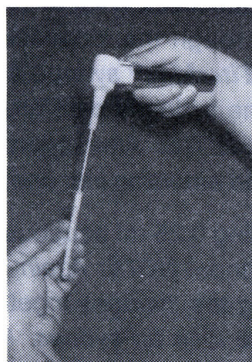

Figure 2: 0.5 ml of a 50:50 water-in-oil emulsion being prepared using the Kontes Pellet Pestle® motor, a wooden applicator stick and 1 ml all plastic syringe.
2. Insert pestle and homogenize for approximately 1 minute. After approximately 1 minute a whipped-cream-like water-in-oil emulsion forms (Figure 2).